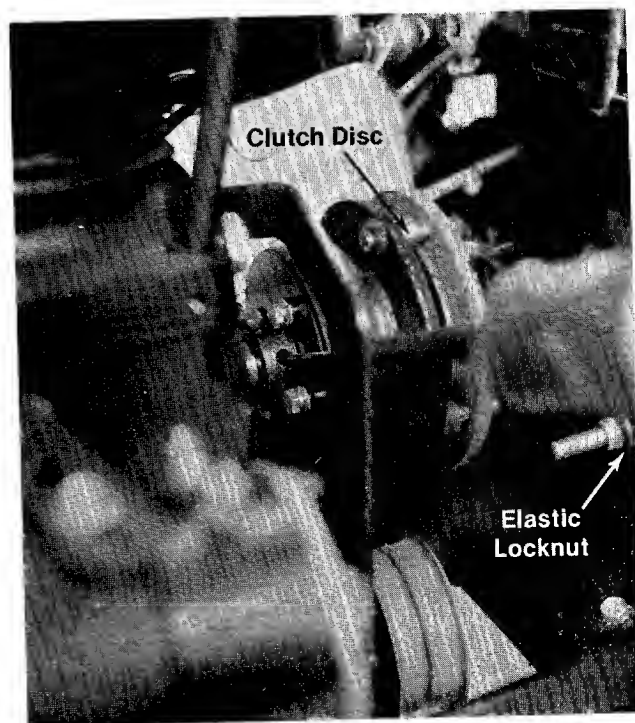
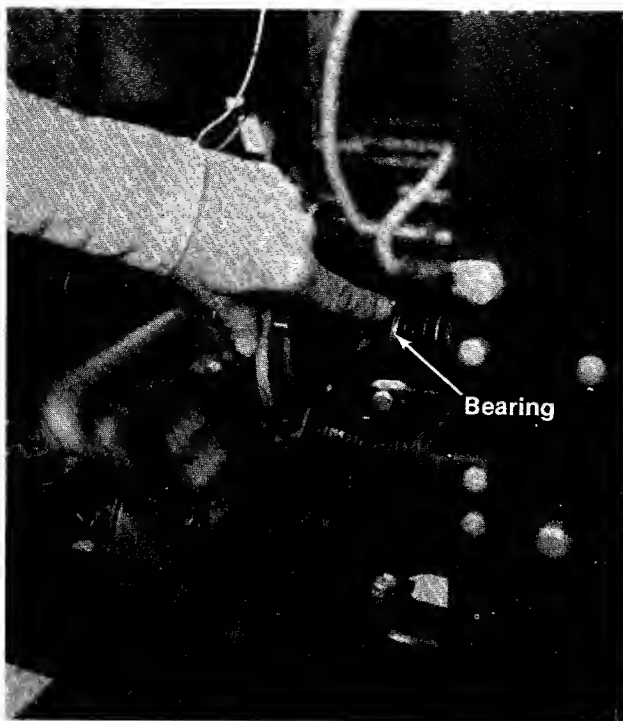

Figure 22
Figure 23
1. Rotate the clutch disc by hand and tighten the elastic locknut (See figure 22.) until the bearing stops rotating. (See figure 23.)